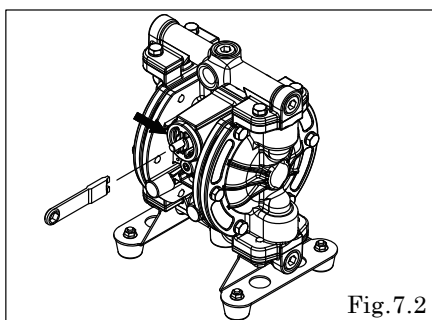

Fig. 7.2
- Remove the cap A and cap B using the cap and disk remover. (special tool: Part No. 771132). [Fig. 7.2]